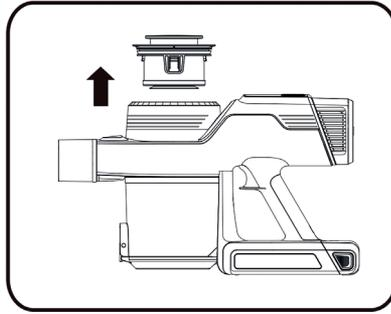

Figure 12
- Remove the filter element in the direction indicated by the arrow (Figure 12)